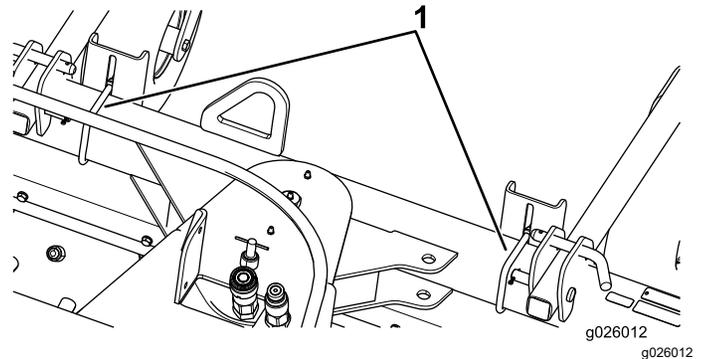

Figure 6
- To widen the barrier gap, loosen the 2 U-bolts (3/8 inch) that hold the barrier mount (Figure 6).
- To narrow the barrier gap, tighten the 2 U-bolts (3/8 inch) that hold the barrier mount (Figure 6).